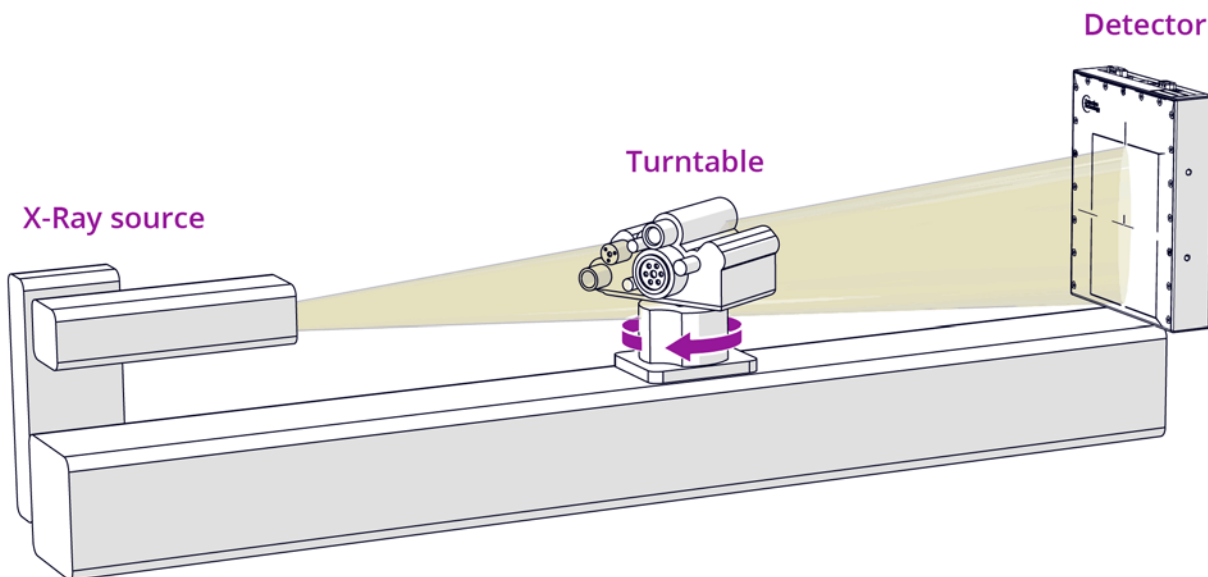

Figure 1. Overview of typical X-ray system with X-Panel 1412i.
X-Panel is a flat panel designed for industrial Computed Tomography (CT) and Digital Radiography (DR) X-ray imaging applications. The main components of a typical imaging system are presented in Figure 1.